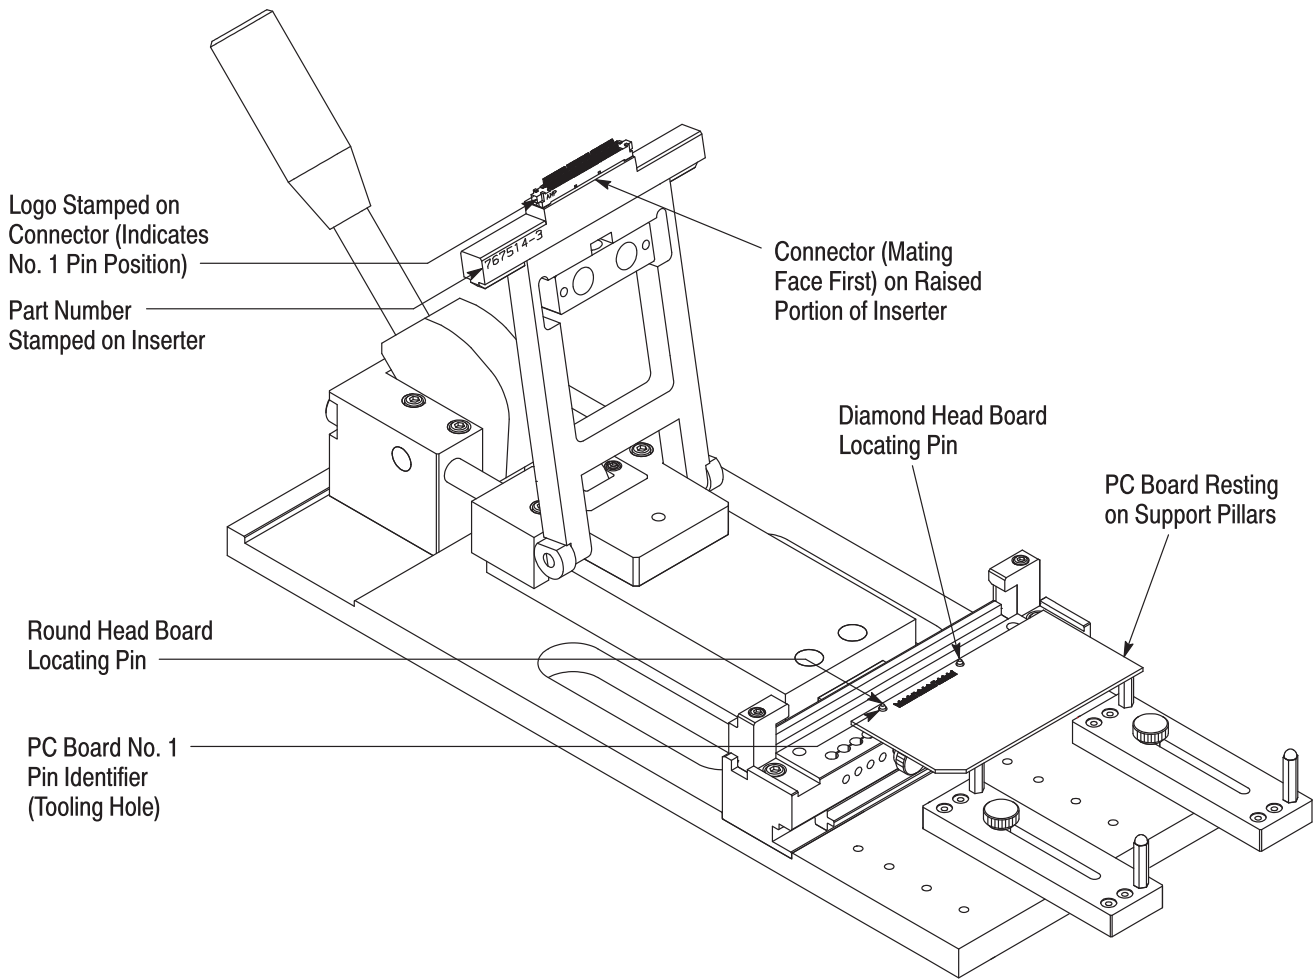

Figure 6
1. Place the pc board onto the tool with the tooling holes over the board locating pins. Make sure that the No. 1 pin identifier is over the round head board locating pin. Allow the board to rest on the support pillars. See Figure 6.